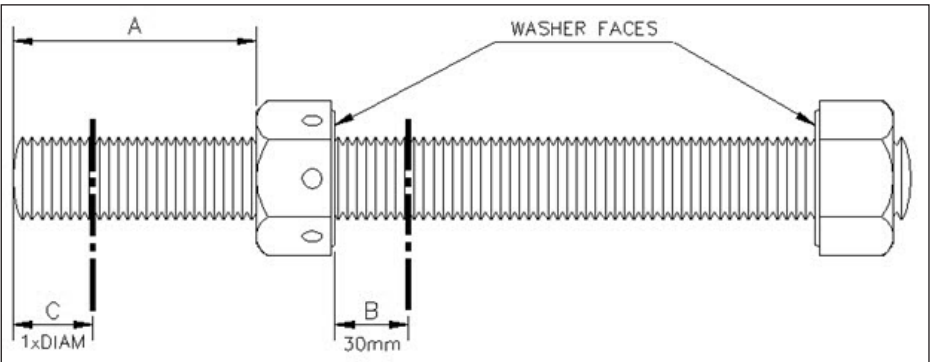

FIGURE 5, BOLT PREPARATION
- 1. To accommodate the AquaJack tensioner an extended portion of bolt is required above the drilled hexagonal nut (Figure 5). It is recommended that this extension (length A) be pre-set before lowering the bolts underwater.
- 3. The drilled hexagonal nut must be free-running on all bolts over the entire length A and especially over the 30 mm length B (Figure 5).
- 4. Assemble the Quick-Fastening reaction nuts to the end of the bolt protrusions, length C (Figure 5), ensuring that the Quick-Fastening reaction nut locking mechanism fully and easily engages.